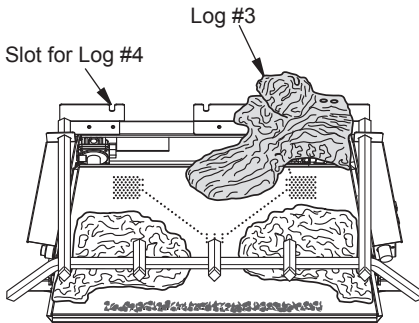

Figure 21 - Installing Log #3
3. Insert pin on the back of log #4 into slot in rear log bracket on grate base (see Figures 21 and 22).